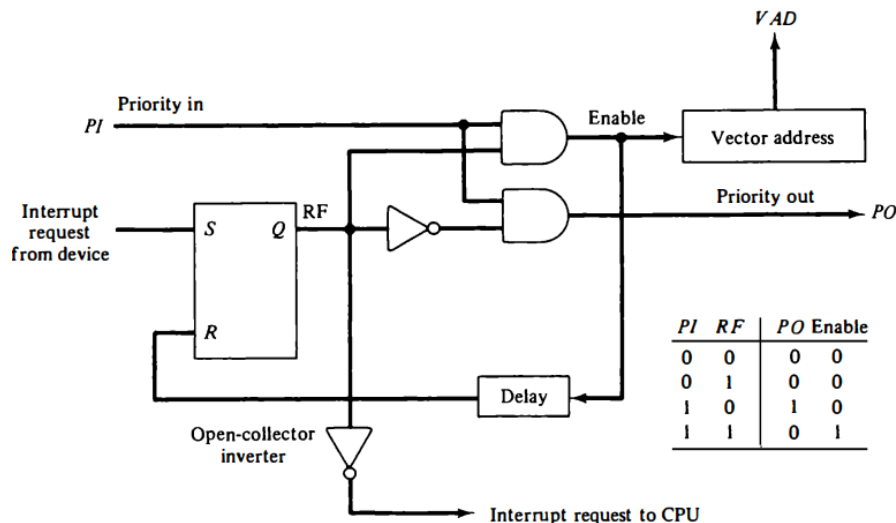

Figure 13 One stage of the daisy-chain priority arrangement.
- **Figure 13** shows the internal logic that must be included within each device when connected in the daisy-chaining scheme. The device sets its RF flip-flop when it wants to interrupt the CPU.